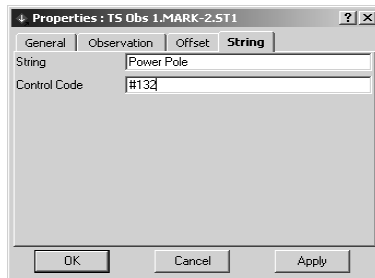

Figure 4-40. TS Properties – CAD Tab
- On the *Properties* dialog box, click the *String* tab (Figure 4-40).